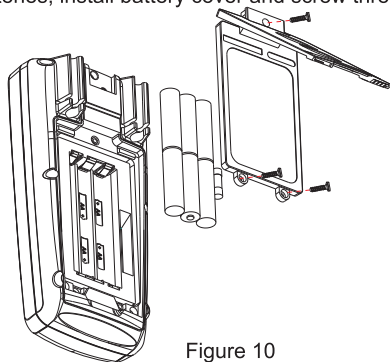

Figure 10
### 2. Battery/Fuse Installation or Replacement (See Figure 10)
The power supply for this product is 6 1.5V (No.5) batteries. Please install or replace batteries according to the sequence listed in Figure 10.
- ① Turn knob switch to the position of OFF (off) and remove private wire.
- ② Use standard cross screwdriver to remove three screws on the battery cover, remove the battery cover, take out batteries and install new batteries according to the polar indication.
- ③ Please use batteries in the same model. Do not install any inappropriate battery.
- ④ Please take out damaged fuse in the way shown in Figure 10 and replace it with fuse in the same specifications. Fuse specifications: 0.5A/1000V.
- ⑤ After installing new batteries, install battery cover and screw three screws.